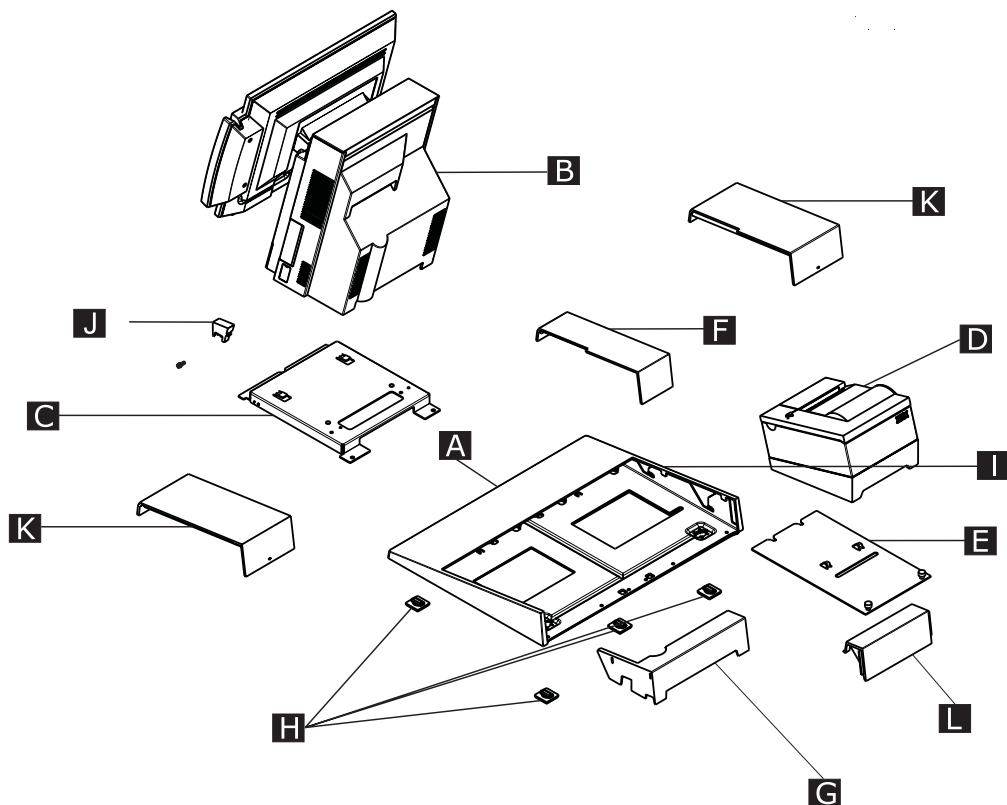

Figure 62. Countertop non-keyboard integration tray
- a. Remove the narrow filler panel **F** between the system and remove the printer vertical rear covers **G** behind the system and as shown in Figure 62 on page 86.